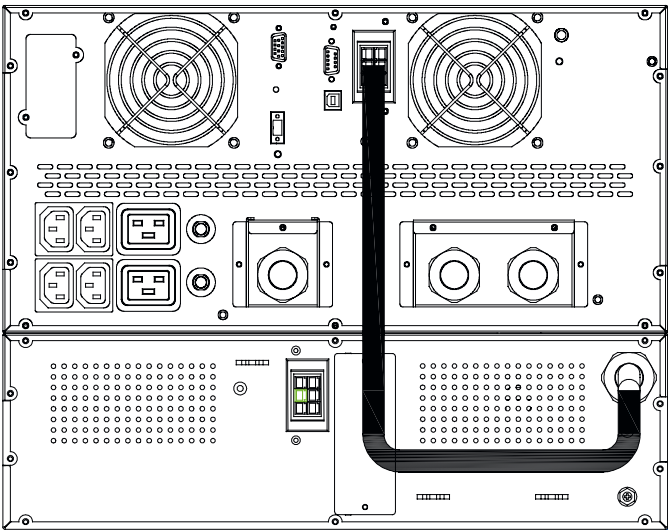

Figure 3: Battery Module Connections
- 1. Plug the battery module cable into the UPS battery connector in the rear panel of the UPS as shown in Figure 3.